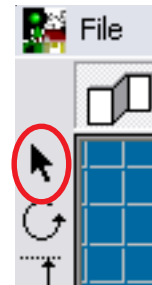

Figure 14
1. To change a wall while drawing select the pointer tool in the left menu and **click** on the line you wish to change. The pointer tool is shown in **figure 14**.